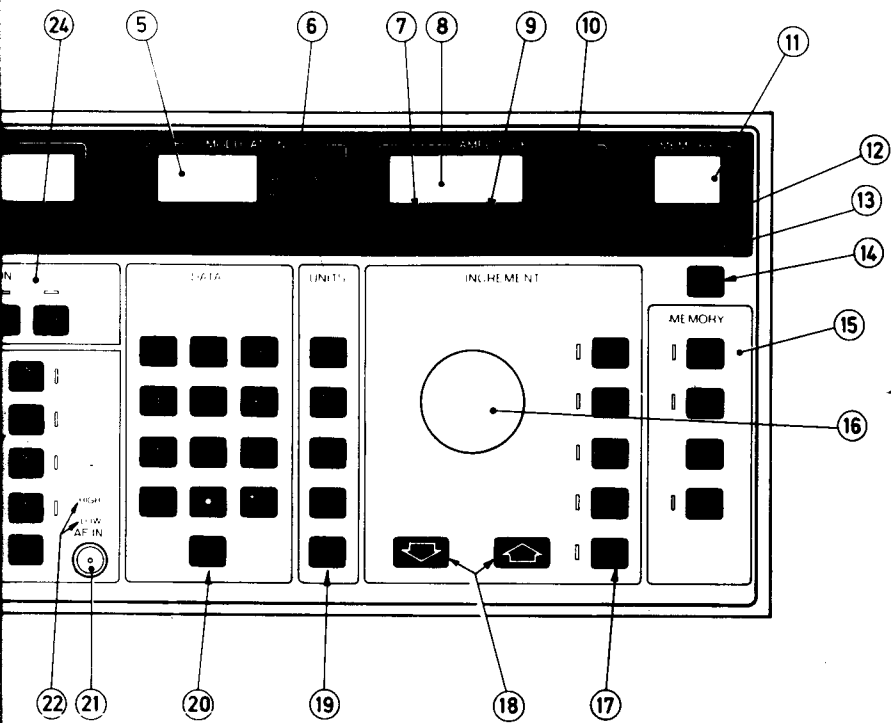

Fig. 4.1 Front Panel
4.2.1 Each group of controls or connectors described is numbered to correspond with the indicators on Fig. 4.1 (front panel) or Fig. 4.2 (rear panel). With the exception of the LINE switch, the front-panel keys are of the pressure-sensitive membrane-type. The numeric indicators are of the LED dot-matrix type.